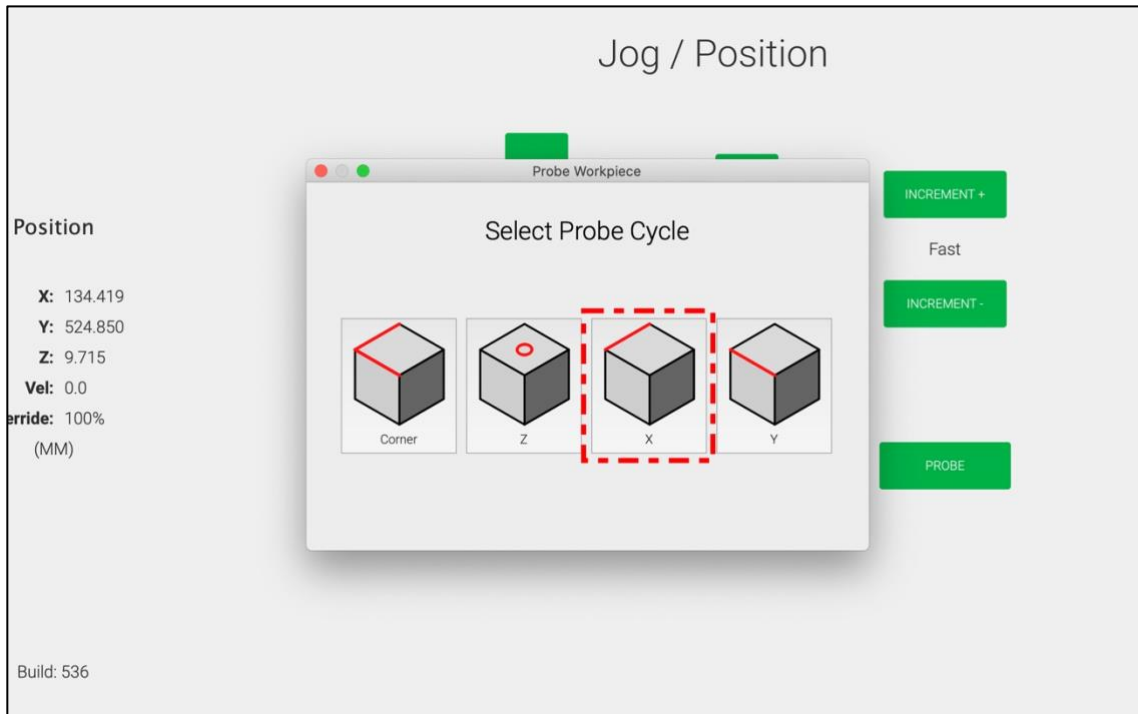
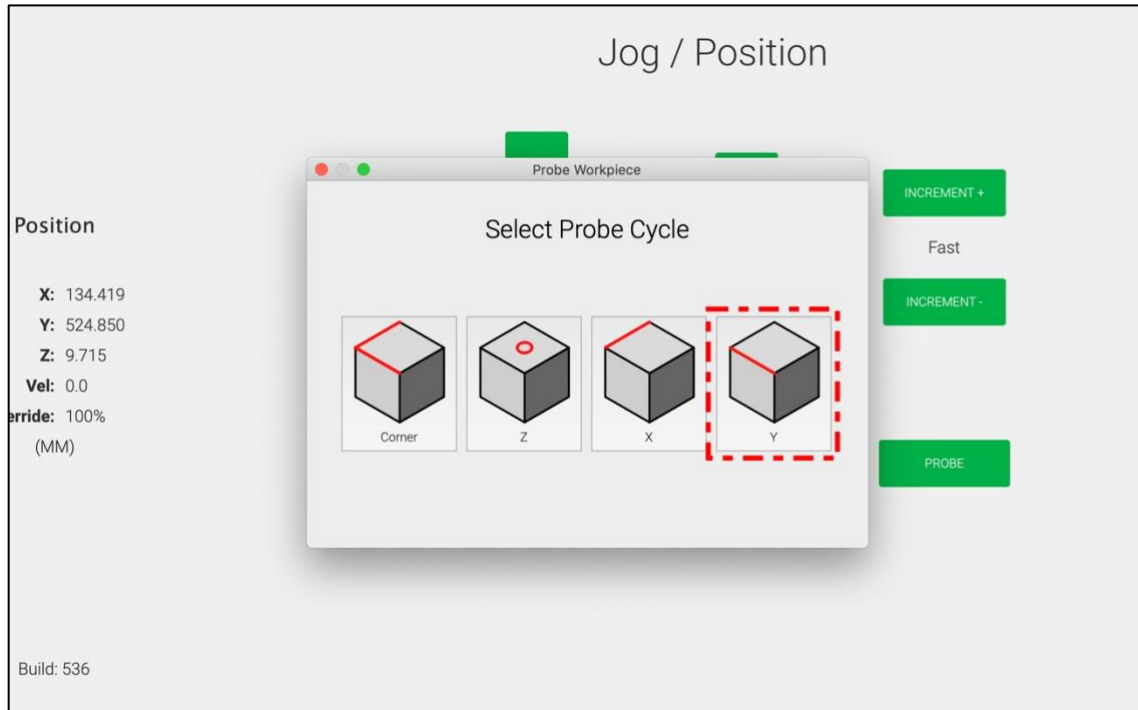

Figure 20
Figure 21
11. Select the **X** probe cycle if you want to set X-zero only (see **Fig. 20**). If you'd like to set Y-zero only, select the **Y** probe cycle (see **Fig. 21**).